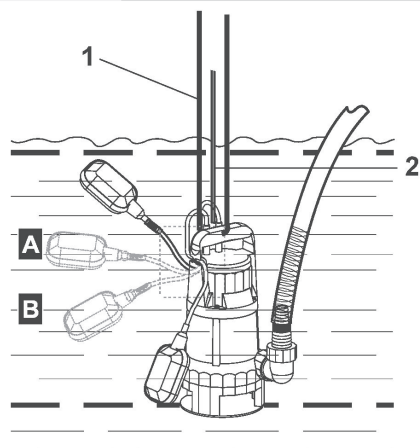

Fig. 4
- Fasten a rope (not provided) to the handle (1) and submerge the product carefully into the product carefully into the water reservoir (Fig. 4).
NOTE: We recommend guiding the power cord by means of clamps alongside the fastening rope (fig.4).